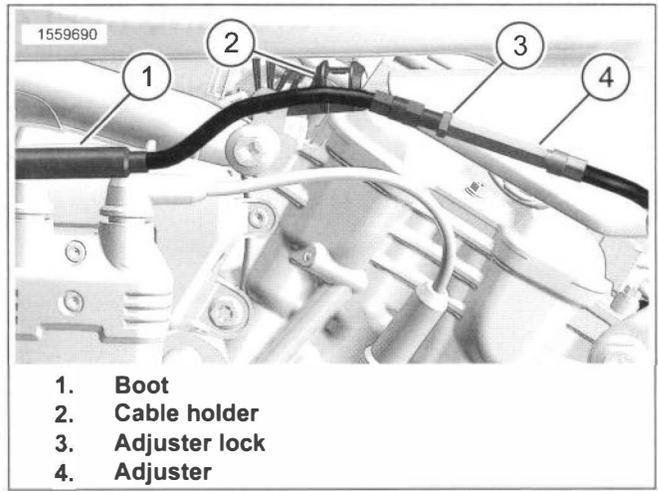

Figure 2-16. Inline Clutch Adjuster
6. Turn adjuster (2) clockwise until adjuster bottoms out.
9. See Figure 2-16. Remove inline adjuster (4) from cable holder (2).
10. Slide boot (1) back.
11. Loosen adjuster lock (3).
14. Slide boot (1), covering clutch adjuster.